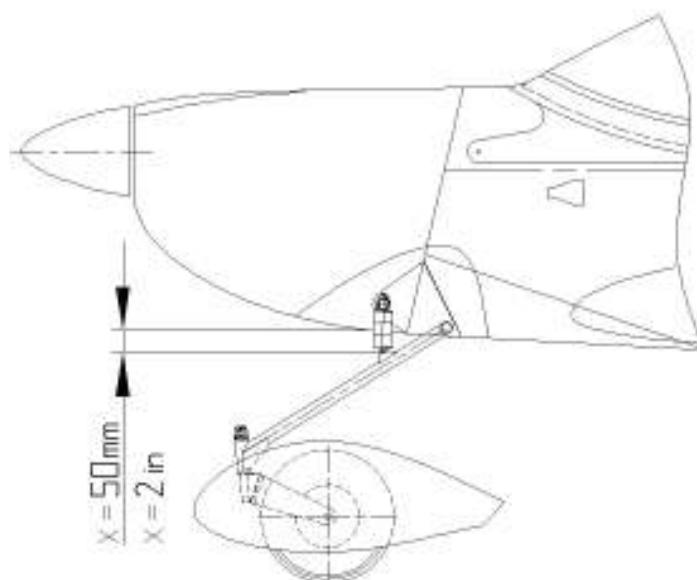

Fig. 8-10: Check of nose landing gear shock absorber
- (b) Measure value of absorber and nose landing gear compression according to Fig. 8-10. Perform measuring in vertical direction between bottom part of engine cowl and the lower shock absorber attachment. The minimum value of **X** dimension is 50 mm (2 in). If this value is lower then exchange the springing elements (see paragraph 8.5.2).